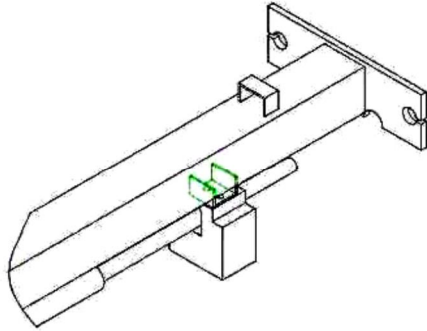

Fig. 6a
7. Install Overhead Limit Switch & Overhead Beam (Figs. 6a, 6b & 6c)
- A. Install overhead limit switch assembly to overhead beam, using 2ea 1/4+20 Bolt & Lock Nuts as shown in figs 6a, 6b & 6c.